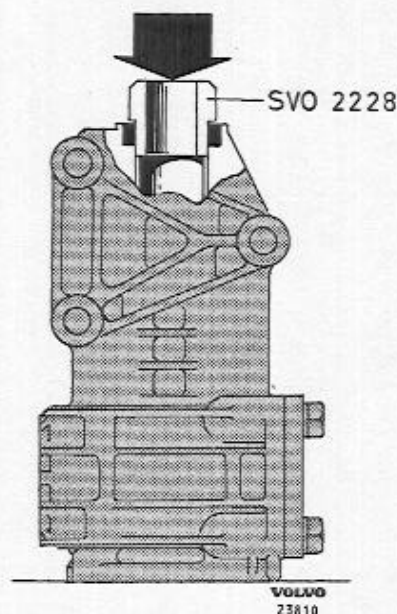
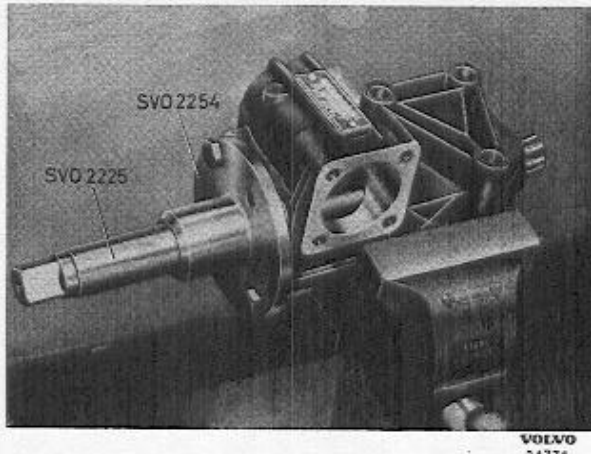
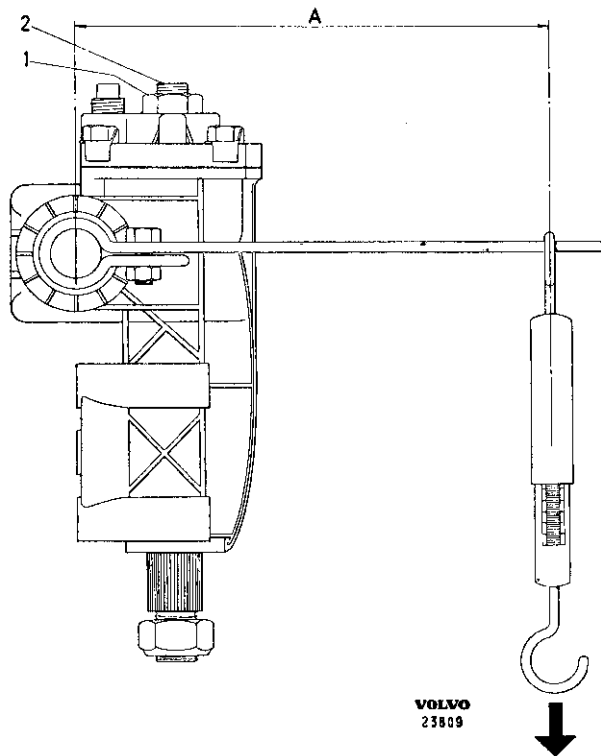

Fig. 27. Fitting the pitman arm shaft bushing.
Fig. 28. Reaming the pitman arm shaft bushings.
Fig. 31. Checking the tension between cam and roller.
1. Press in the pitman arm shaft bushings from either direction with drift SVO 2228 and standard handle SVO 1801, see Fig. 27. Ream the bushings with reamer SVO 2225. Use the guide SVO 2254, which is attached to the housing with two bolts, see Fig. 28. Thoroughly clean all metal chippings from the housing after reaming.
8. Set the steering column in the centre position. Screw in the adjusting screw until a noticeable resistance is felt when turning backwards and forwards over the centre position. Attach a spring balance at a distance of 210 mm (8¹/₄") from the pivoting centre. The spring balance can be attached on a balance rod fitted on the steering column as shown in Fig. 31. Screw back the adjusting screw until the spring balance gives a reading of 0.4—0.7 kg (0.88—1.54 lb) when it turns the steering column over the centre position. Pulling should be done at right-angles to the steering column (see Fig. 28) and the steering box should be secured in such a way that the steering column is horizontal when measuring. When the correct adjustment has been obtained, the adjusting screw is locked with the stop nut. Repeat the test when the stop nut has been tightened.